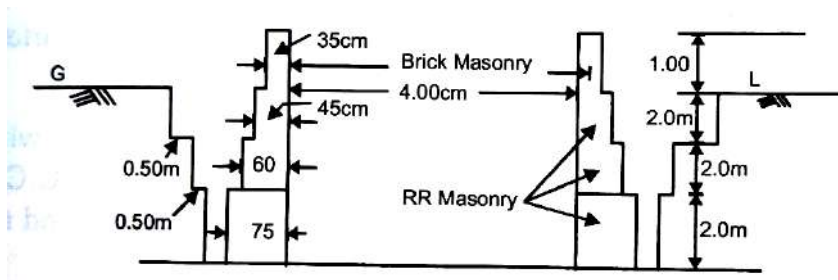

Fig.1
6. The cross section of a circular well is shown in the fig.1, calculate the quantity of masonry in parapet wall.